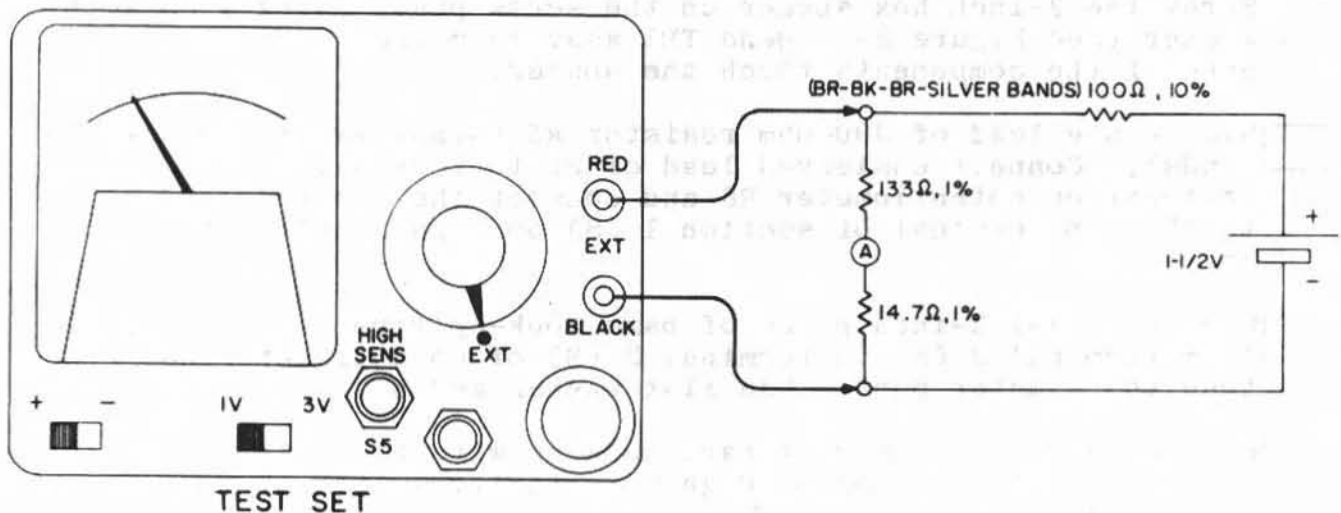

Figure 6 - Calibration Setup
2. Connect the three calibration resistors and a fresh "D" cell flashlight battery as shown in Figure 6.